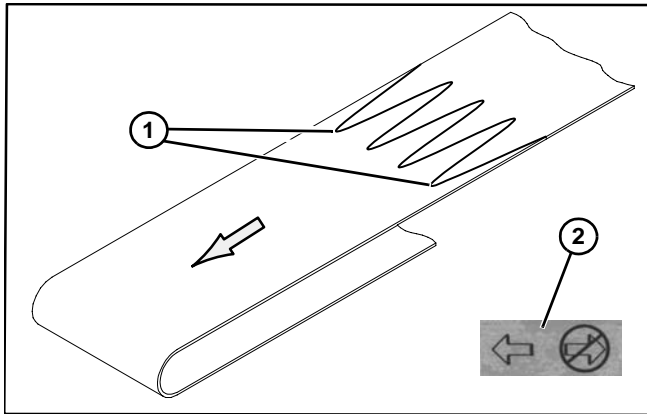

Figure 57
1. Orient belt so splice leading fingers (**Figure 57, item 1**) point in the direction of belt travel as identified by the conveyor directional label (**Figure 57, item 2**).
2. Orient belt so splice leading fingers (**Figure 57, item 1**) point in the direction of belt travel as identified by the conveyor directional label (**Figure 57, item 2**).